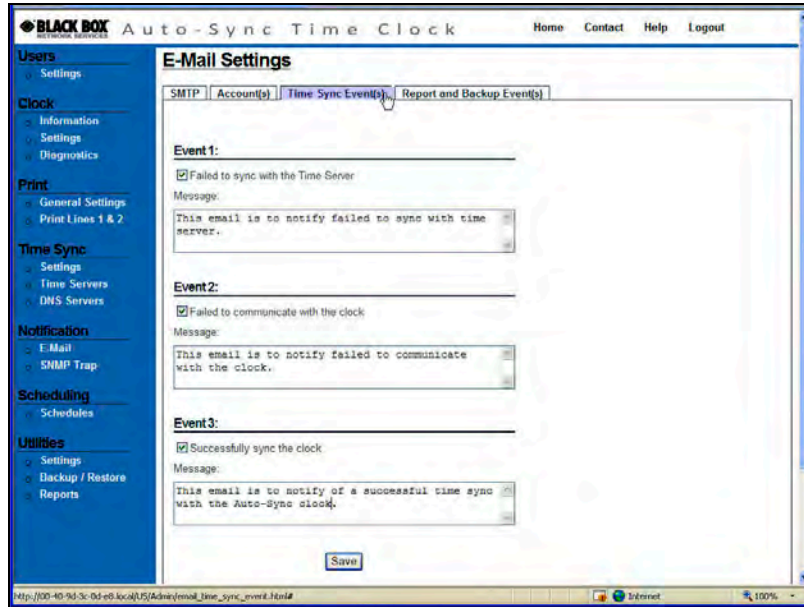

Figure 4-17. E-Mail Settings for Time Sync Events.
10. Click on the **Time Sync Event(s)** tab and the E-Mail Settings screen to select event(s) for email notification will appear (see *Figure 4-17*).